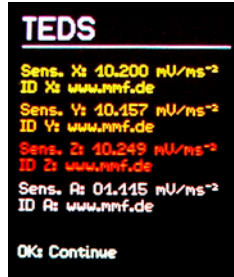

Figure 3:
If the sensor has not yet been connected, plug the sensor cable into the right connector. The VM31 will start TEDS¹ detection each time it is switched on or a sensor is connected. It supports IEEE 1451.4 TEDS template no. 25 (with or without transfer function). The sensitivities of X/Y/Z and channel A are displayed for some seconds (Figure 3). For each channel also the user text of TEDS (ID) is displayed.